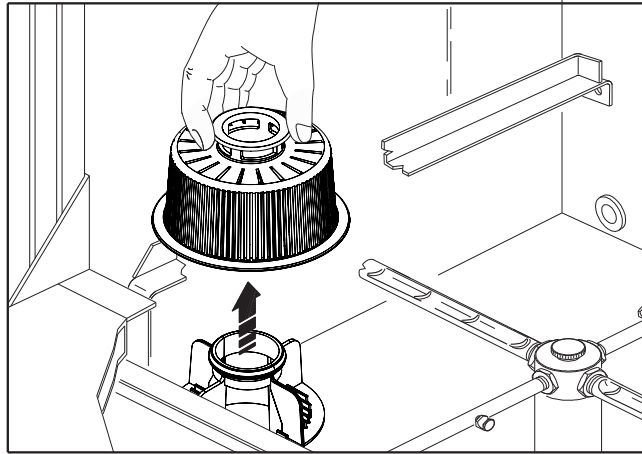

Fig. 17
5. Remove and clean the wash pump filter (fig. 17) and any tank filters if present
9. Remove and clean the wash pump filter (fig. 17) and any tank filters if present